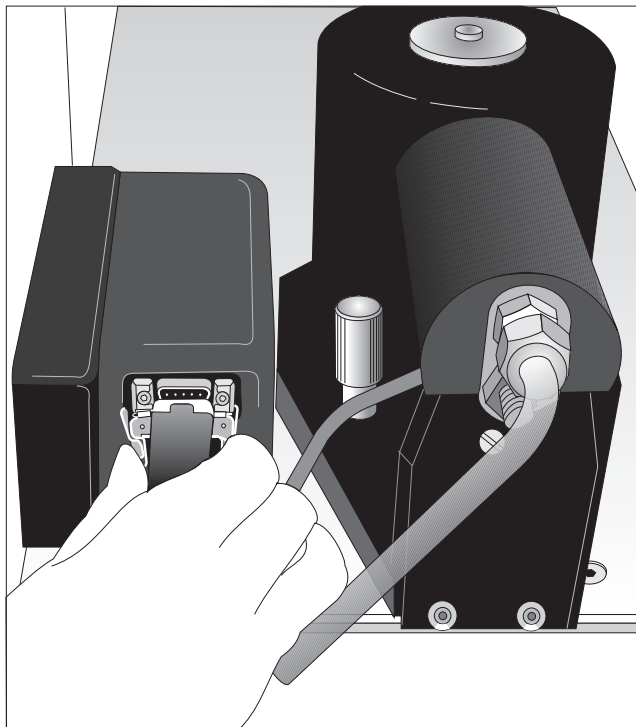

Figure 2.14
7. Plug in the cable from the heat exchanger (see Figure 2.14 for the cable setup on the DSC 2920 CE), making sure that the spring clip retainers are fully engaged.